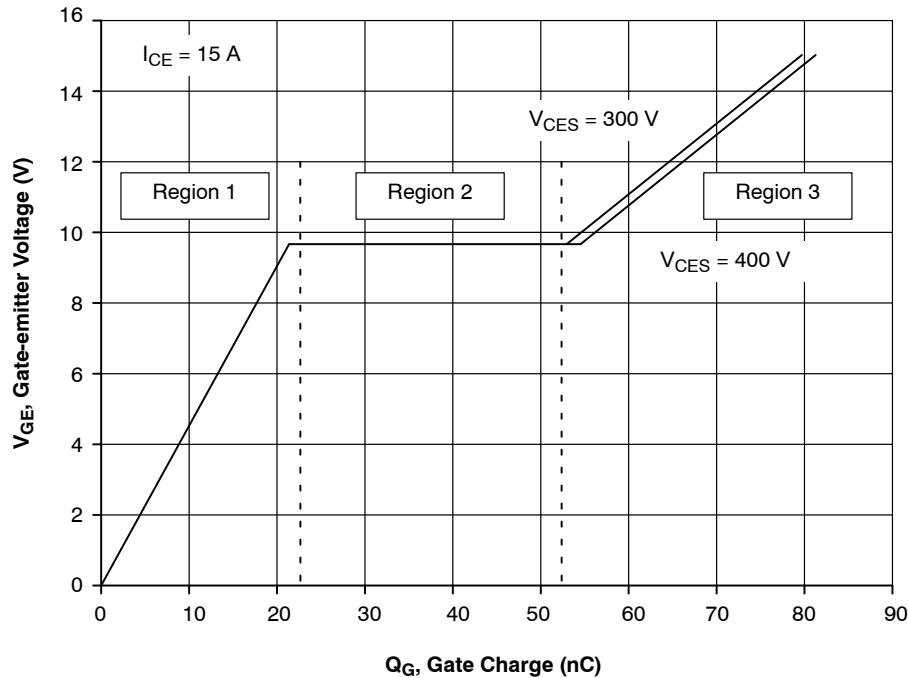

Figure 2. Gate Voltage vs. Gate Charge Characteristics (15 A, 600 V IGBT)
2. Gate charge considerations – In order to fully turn-on the device in high voltage application, both MOSFET and the IGBT drivers must supply voltage beyond the plateau voltage that is needed to overcome the equivalent of the Miller effect in the device (providing the  $Q_{GD}$  and  $Q_{GC}$  charge at a constant voltage to the MOSFET and IGBT, respectively). The plateau voltage is shown in Figure 2. As shown here, the typical IGBT has a higher plateau voltage (near 10 V) than a typical MOSFET (near 5 V). There is also a higher variability in the IGBT plateau voltage as a function of collector current. As a result, it makes sense to set the IGBT  $V_{GE}$  value higher than the typical FET  $V_{GS}$  value. However, in both cases, increasing the gate voltage beyond the plateau voltage increases the value of total gate